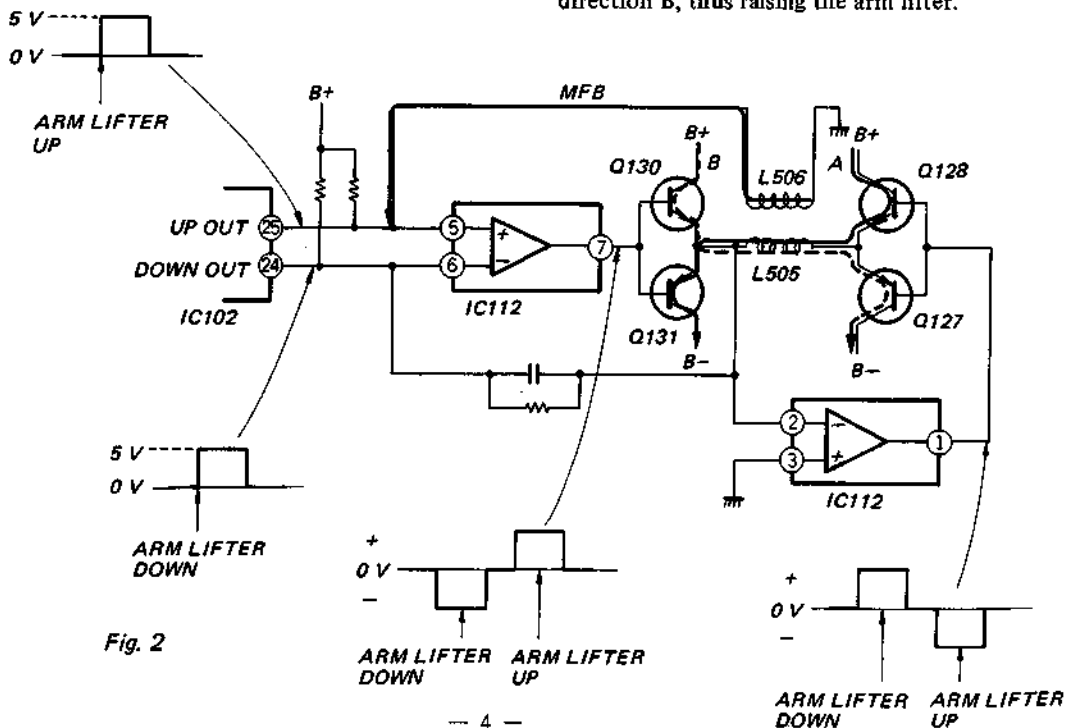

Fig. 2
2. Arm Lifter Raising/Lowering Circuit (see Fig. 2):